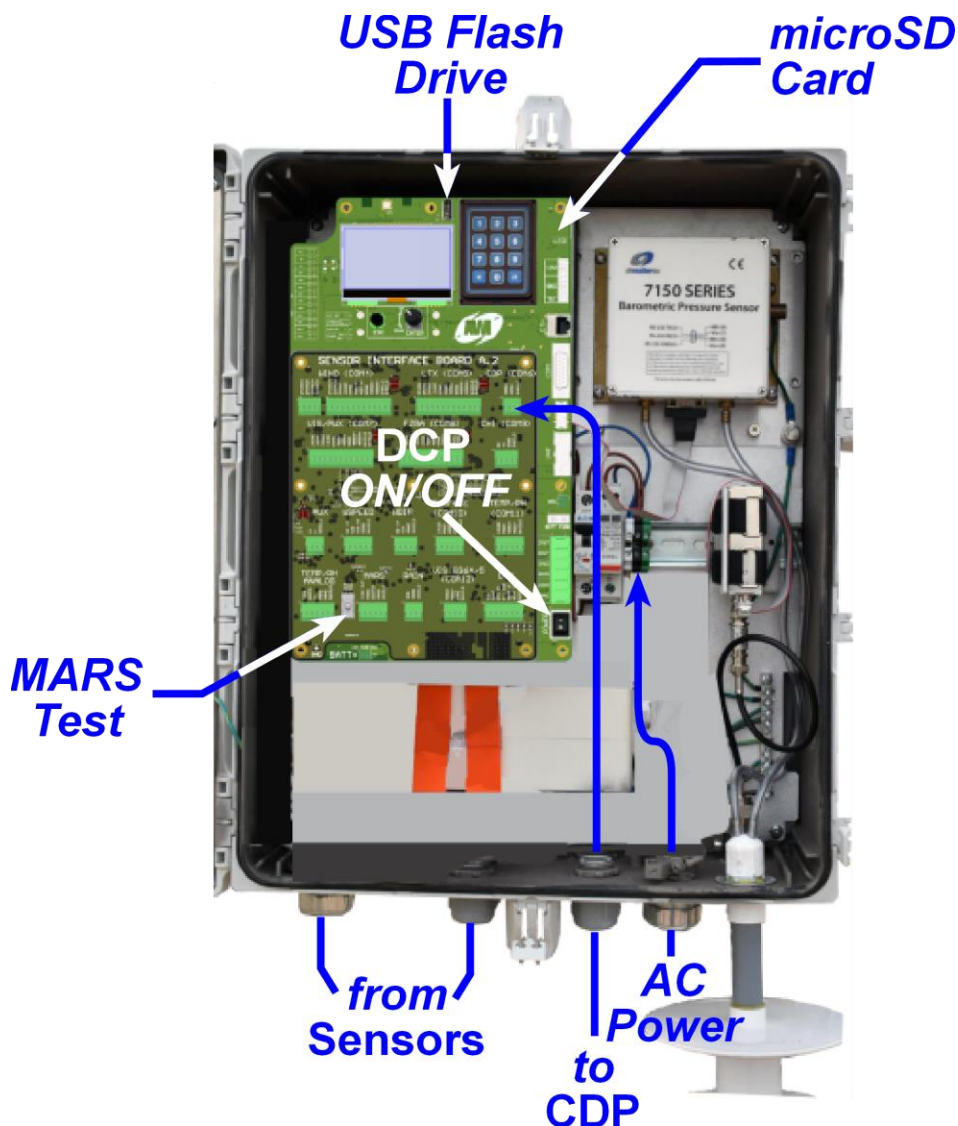

Figure 12. DCP Layout and Connections Inside Enclosure
2. Connect the wires to the connectors shown in Figure 12 according to the wiring information provided in this chapter.
Figure 12 shows the layout of the various electronics subassemblies inside the electronics enclosure and the routing of cables from the cable glands.